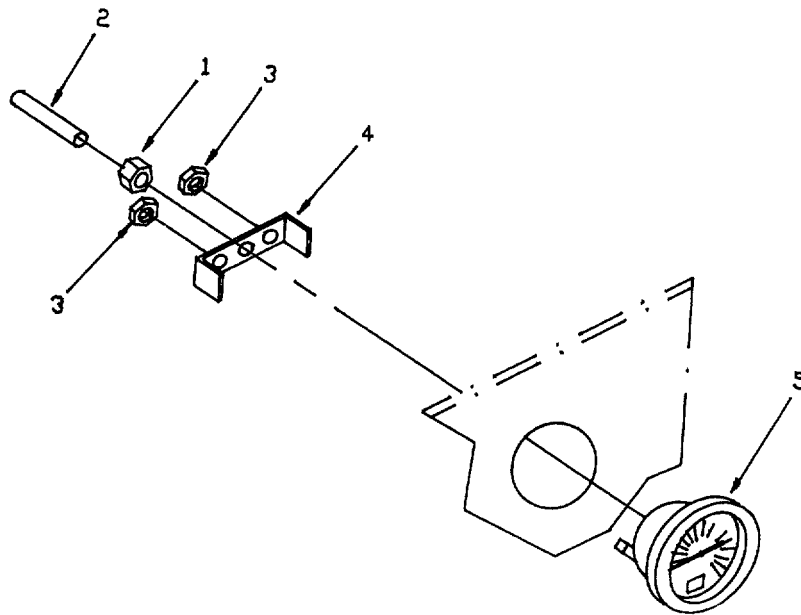

Figure 4-17. Mechanical Gage.
- (1) Remove tube nut (1, Figure 4-17) and nonmetallic tube (2) from gage (5).
- (2) Remove plain hexagon nuts (3) and bracket (4).
- (3) Remove gage (5).
- (1) Install new gage (5, Figure 4-17).
- (2) Install bracket (4) and plain hexagon nuts (3) and tighten.
- (3) Install nonmetallic tube (2) and tighten tube nut (1).